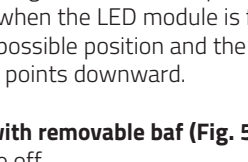

Fig. 3
4. Press the springs together and place the lamp in the sawn out hole (see Figure 3).